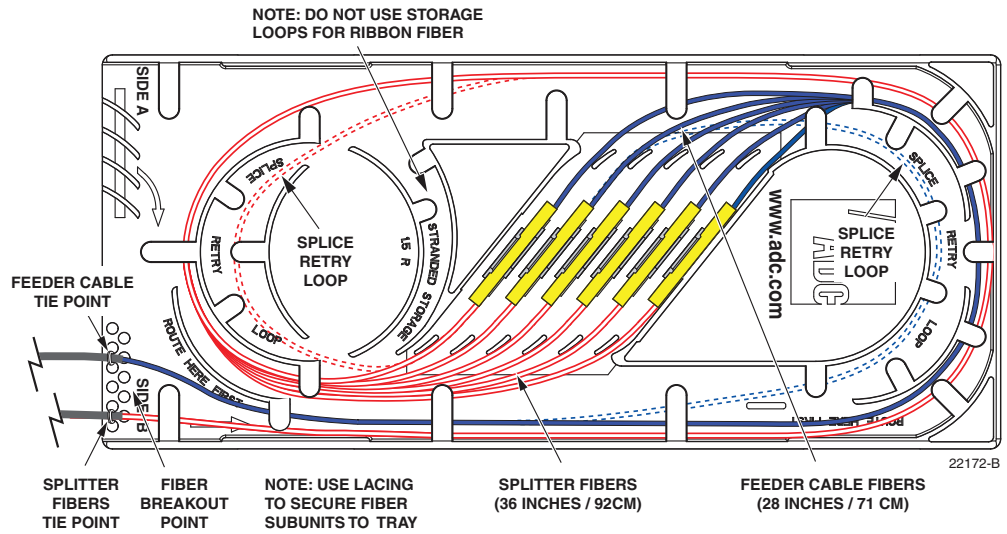

Figure 40. Ribbon Fiber Splice Tray - Feeder Cable Splicing
10. Splice the feeder cable fibers to the appropriate splitter fibers as specified by local policies and procedures. Adjust and route the fibers within the splice tray as shown in Figure 40. Refer to Table 4 for the splitter fiber designations.